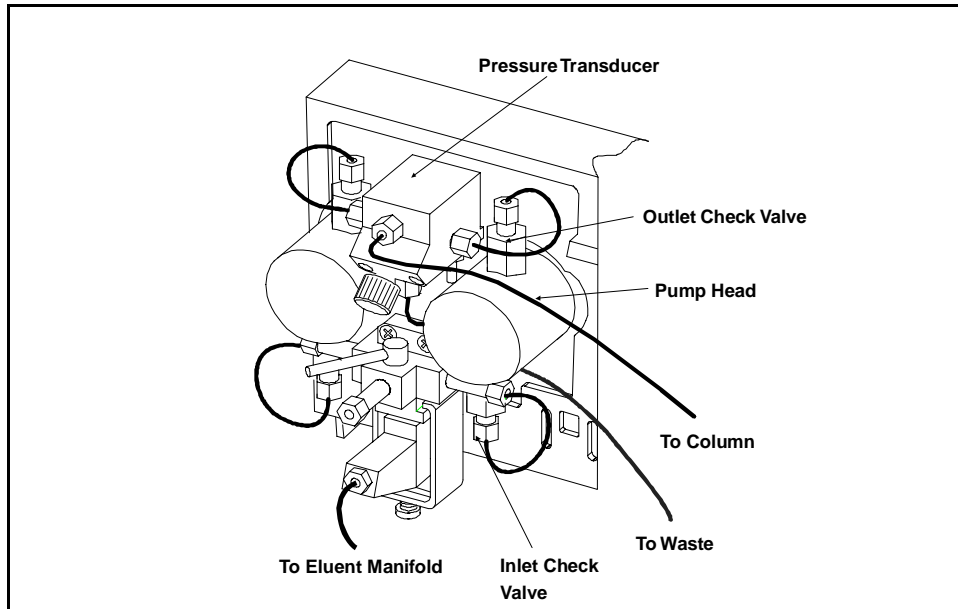

Figure 5-1. Pump Heads and Liquid Lines (PEEK)
2. Disconnect the tube fittings from the inlet and outlet check valve housings (see Figures 5-1 and 5-2).
2. Disconnect the tube fittings from the pressure transducer and the inlet check valve (see Figures 5-1 and 5-2).
2. Disconnect the liquid lines between the pressure transducer housing and the check valve housings (see Figure 5-1 and 5-2).